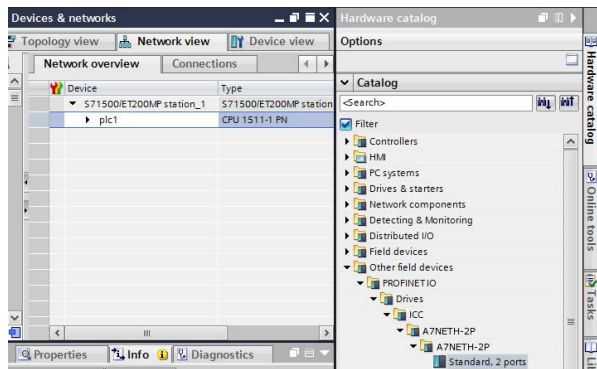

Figure 64: Updated Hardware Catalog
3. This will update the **Hardware catalog**. Locate the device in the **Hardware catalog**. In the **Project tree**, double-click on **Device & networks**. Select the **Network view** tab and locate the device in the **Hardware catalog** as shown in Figure 64.